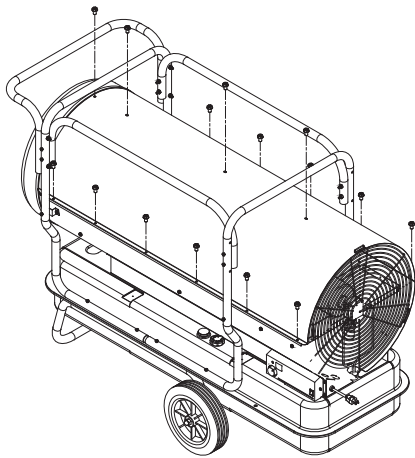

Figure 6. Upper Shell Removal
- (See Figure 6)
- Remove upper shell (See figure 6 above)